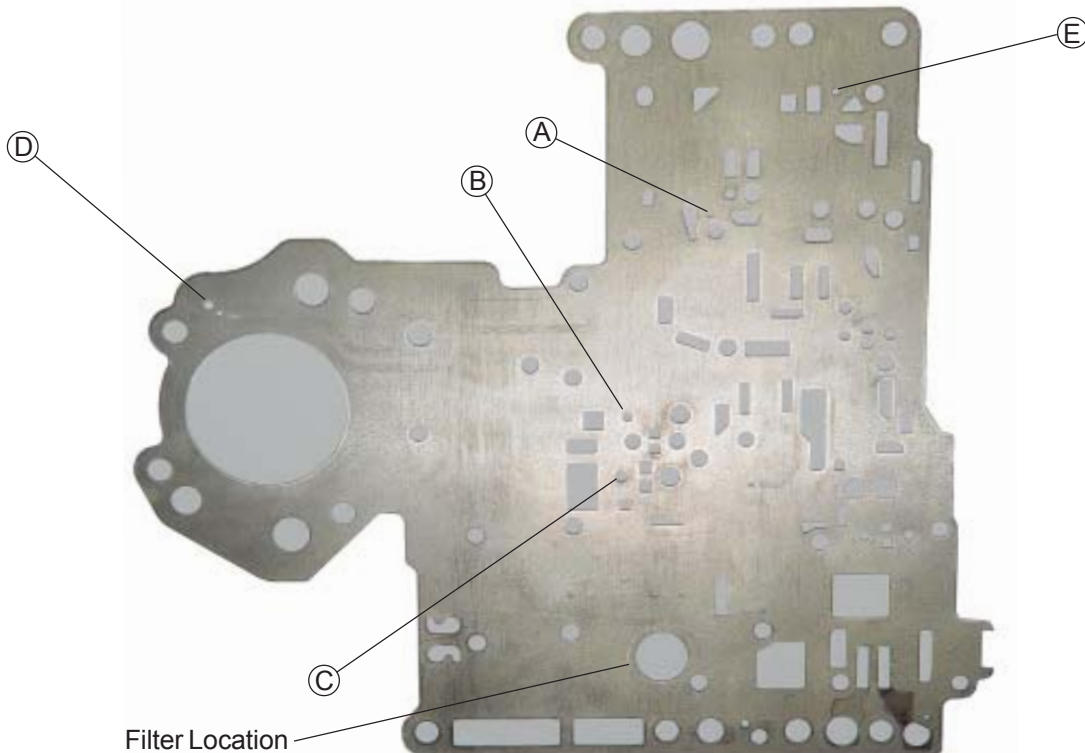

Figure 5
STEP 9. Drill the separator plate as shown in figure 5.